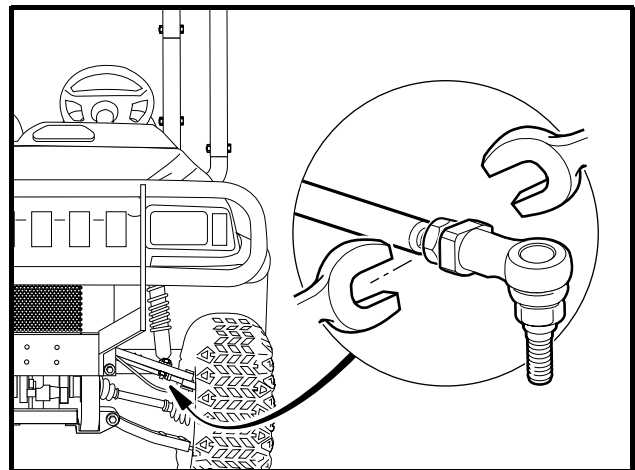

Figure 7-24 Adjust Toe-in
1. Loosen the jam nuts on both ends of each drag link (Figure 7-24, Page 7-12).